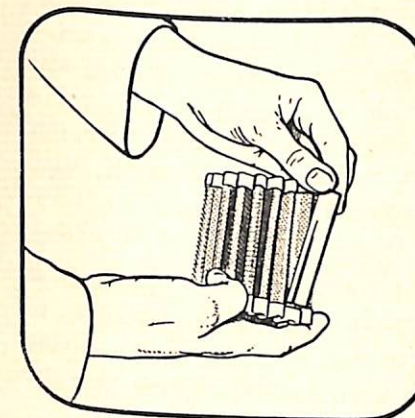

FIG. 70.
- (f) Slide off metal clip from element (see fig. 70).